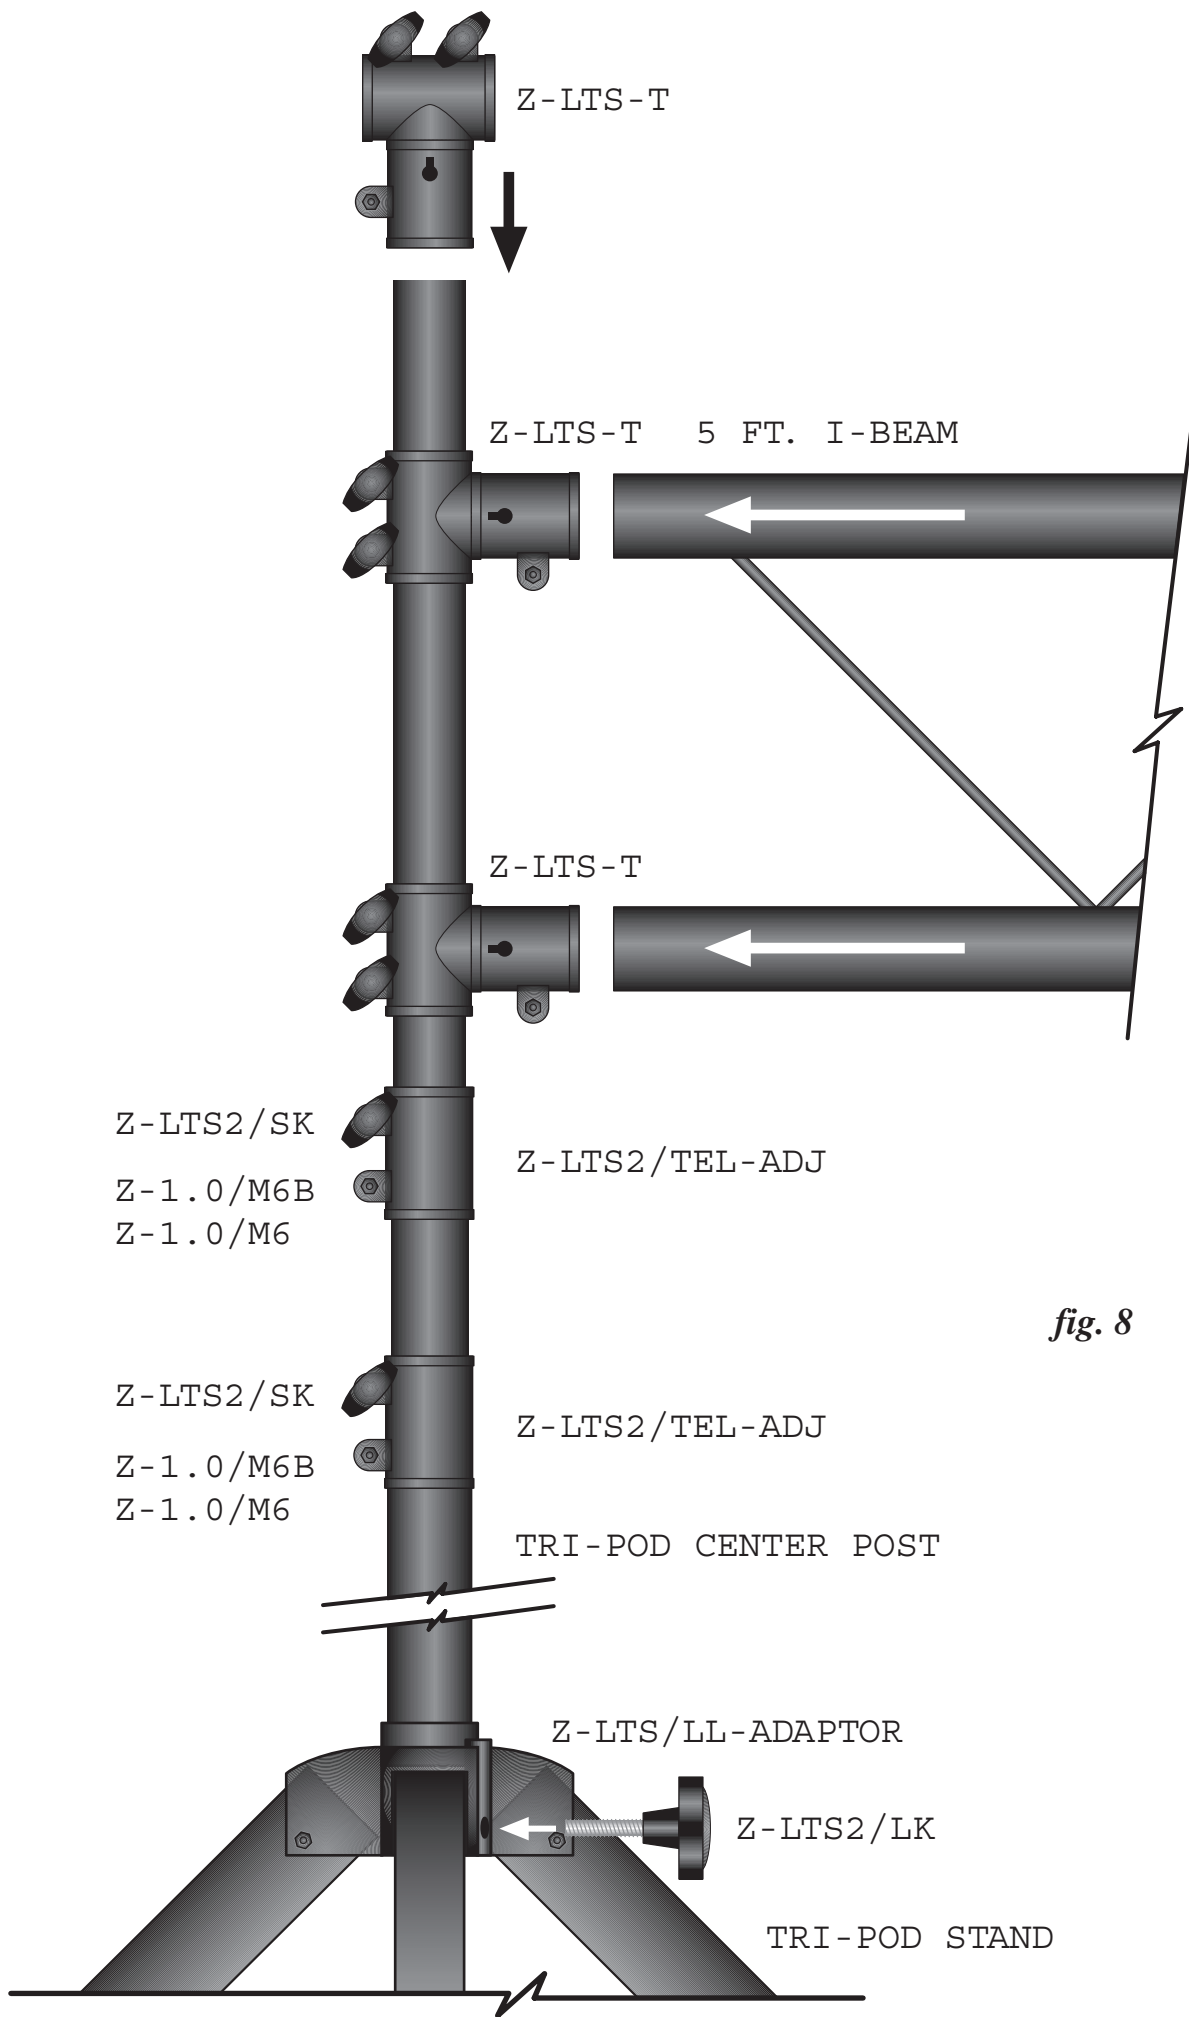

*fig. 3*
3. Now take two of the slide mount T-collar and attach to either end of the center support bar. (See Fig. 3)